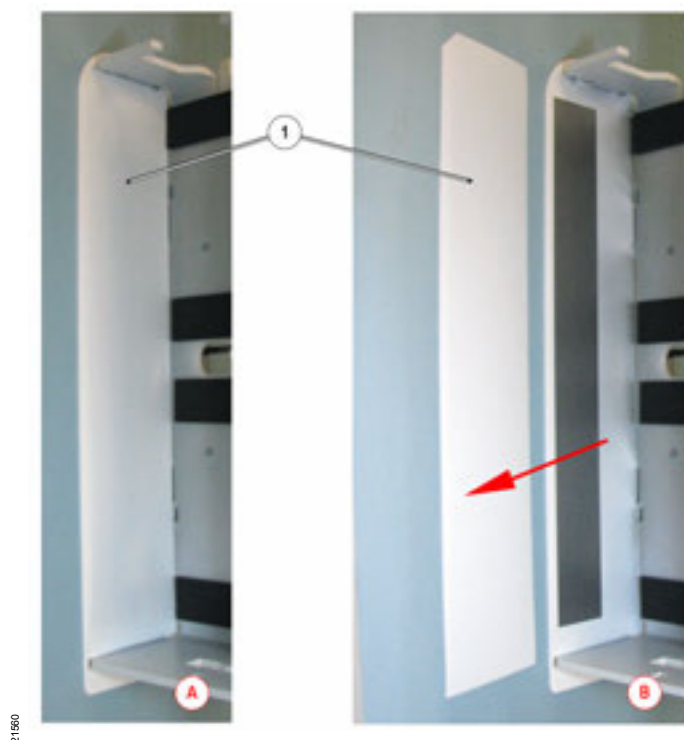

Fig. 107 Battery pack for external batteries: Insulating plate
- 12 If the insulating plate (Fig. 107/1) is fitted, take it out and check that it is not damaged.